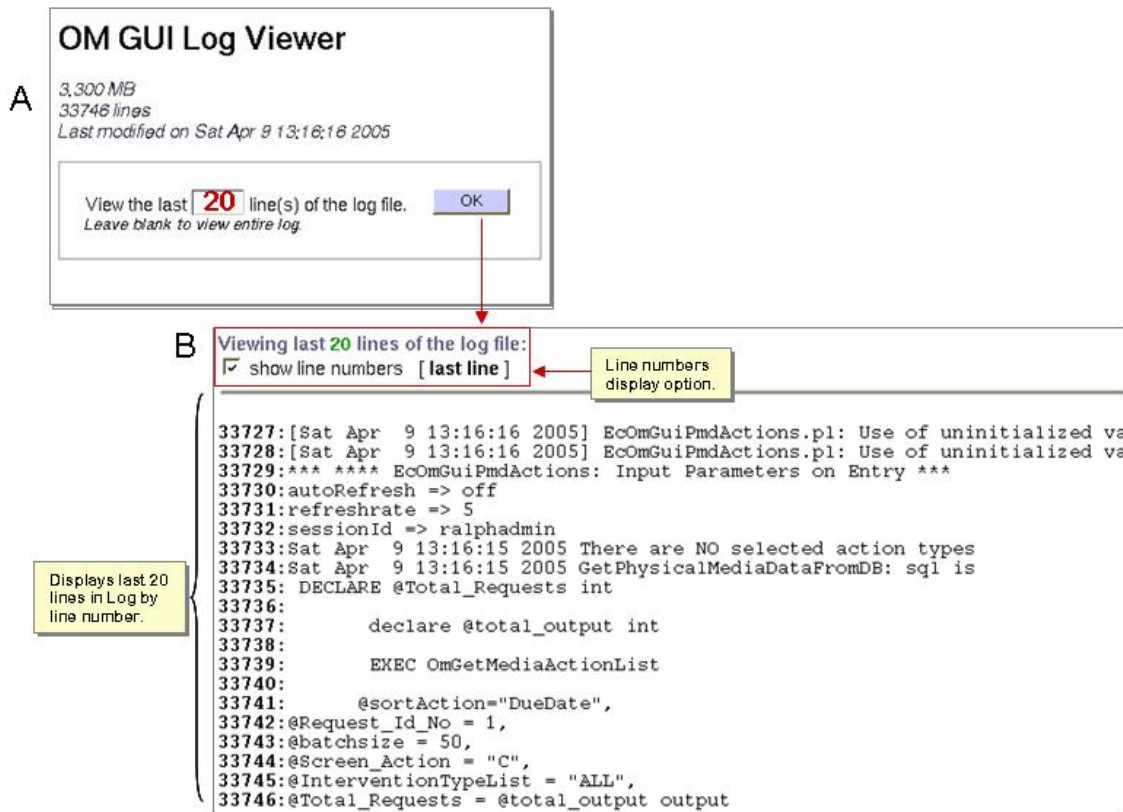

Figure 15.14-1. OM GUI Log Viewer Page
The **OM GUI Log Viewer** page (Figure 15.14-1, Frame A) provides the Operator the capability to view entries captured in the OM GUI log file.
- The **OM GUI Log Viewer** (Figure 15.14-1, Frame A) page displays.
- The OM GUI Log Viewer 20 line “log file” (Figure 15.14-1, Frame B) displays.